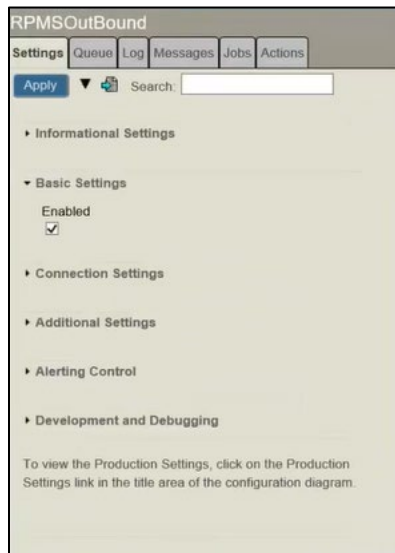

Figure 4-4: RPMSOutBound production configuration
- a. Click on **RPMSOutBound**. The dialogue box at the right opens (Figure 4-4).